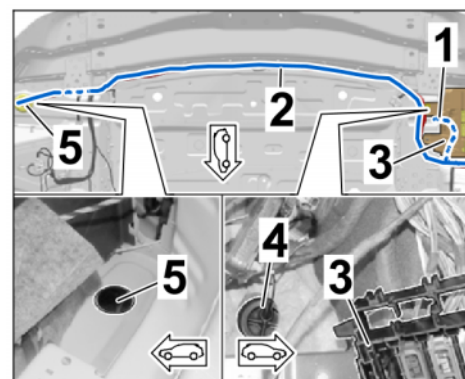

Figure 18
## 3.2.4 Rear end plate area and grommet/stopper for luggage compartment floor (⇒ Figure 18)
- Branch for exhaust flap (left) to grommet/stopper for luggage compartment floor, left (beneath fuse box in luggage compartment (left) → branch for exhaust flap on the right to rear closing panel → along rear closing panel (⇒ Figure 18 -top-) → grommet/stopper for luggage compartment floor, right.